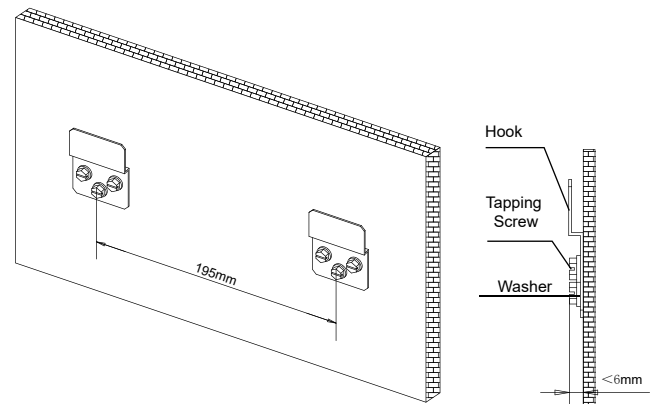

Fig.5-3
- Fix the hook by tapping a screw into the wall (Refer to Fig.5-3).